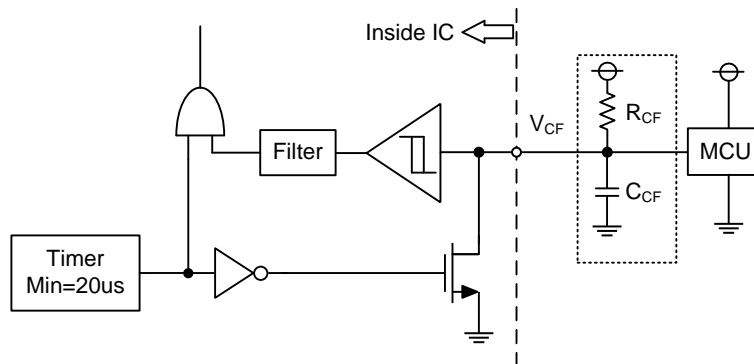

Figure 5. V_{CF} Output Circuit
- (1) If the control GND is connected with the power GND by common broad pattern, it may cause malfunction by power GND fluctuation. It is recommended to connect the control GND and power GND at a single point (N1), near the terminal of the shunt resistor.
- (2) There are two COM pins in the IPM but it is recommended to only use the (15) COM pin to minimize SC detection noise.
- (3) A zener diode D1 (24V/1W) is recommended between each pair of control supply pins to prevent surge destruction.
- (4) Prevention of surge destruction can further be improved by placing the bus capacitor as close to pin P and N1 as possible. Generally a 0.1-0.22μF snubber capacitor C3 between the P-N1 terminals is recommended.
- (5) Selection of the R1*C4 filter components for short-circuit protection is recommended to have tight tolerance, and is temperature-compensated type. The R1*C4 time constant should be set such that SC current is shut down within 2μs; (typically 1.5-2μs). R1 and C4 should be placed as close as possible to the C_{SC} pin. SC interrupting time may vary with layout patterns and components selection, therefore thorough evaluation in the system is necessary.
- (6) Tight tolerance and temperature-compensated components are also recommended when selecting the R2*C5 filter for V_{OT}. The R2*C5 time constant should be set such that V_{OT} is immune to noise. Recommended values of R2 and C5 are 2kΩ and 10nF.
- (7) To prevent malfunction, traces A, B, and C should be as short as possible.
- (8) It is recommended that all capacitors are mounted as close to the IPM as possible. (C1: electrolytic type with good temperature and frequency characteristics. C2: ceramic type with 0.1-2μF, good temperature, frequency and DC bias characteristics.)
- (9) Input drives are active-high. There is a minimum 3.5kΩ pull-down resistor in the input circuit of IC. To prevent malfunction, the layout to each input should be as short as possible. When using RC coupling circuit, make sure the input signal levels meet the required turn-on and turn-off threshold voltages.
- (10) V_{CF} output is open drain type. It should be pulled up to MCU or control power supply (max= $5\pm 0.5V$), limiting the current (I_{CF}) to no more than 1mA. I_{CF} is estimated roughly by the formula of control power supply voltage divided by the pull-up resistor R3. For example, if control supply is 5V, a 10kΩ (over 5kΩ) pull-up resistor R3 is recommended.
- (11) If only a pull-up resistor R3 of 10kΩ connected to V_{CF} pin, the fault output pulse width is fixed at minimum 20us. If a capacitor C6 is connected with a pull-up resistor R3, the fault output pulse width can be controlled according to the resistor value and capacitor value. For the design guide, please refer to the Figure 5.
- (12) Direct drive of the IPM from the MCU is possible without having to use opto-coupler or isolation transformer.
- (13) The IPM may malfunction and erroneous operations may occur if high frequency noise is superimposed to the supply line. To avoid such problems, line ripple voltage is recommended to have $dV/dt \leq \pm 1V/\mu s$, and $V_{ripple} \leq 2V_{p-p}$.
- (14) It is not recommended to use the IPM to drive the same load in parallel with another IPM or inverter types.